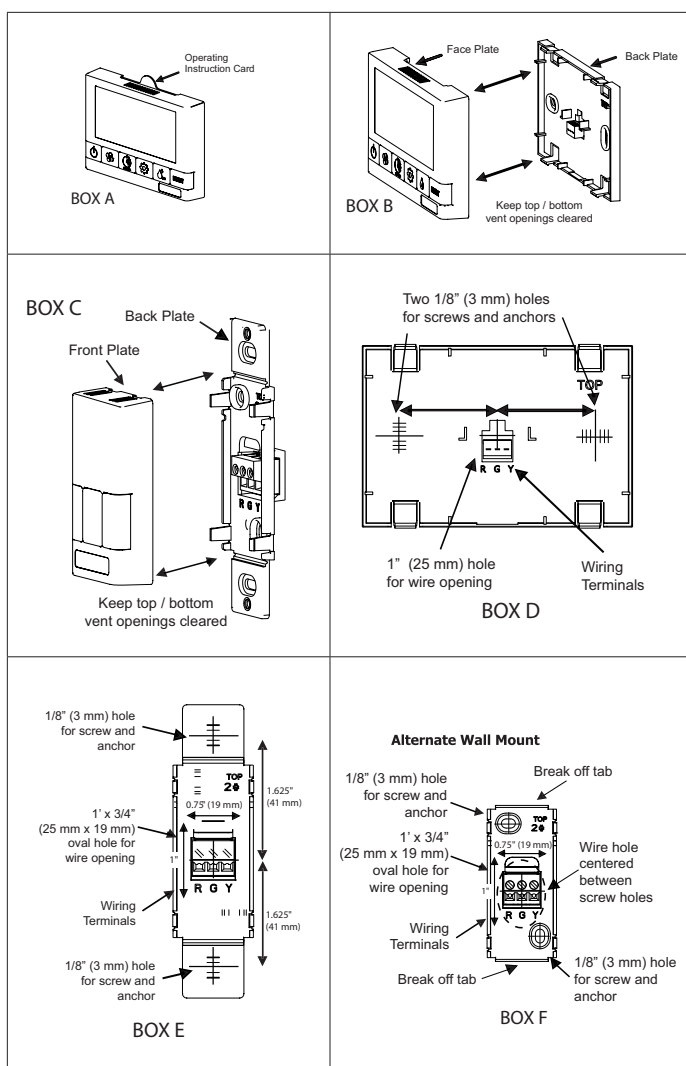

Figure 34. Digital Control Installation
1. For the Digital 5-Speed / 5-Mode Control, remove the operating instructions card from the top of the control (Figure 34, Box A).
2. Separate the face plate from the back plate by firmly pulling apart (Figure 34, Boxes B or C). Be careful not to damage face plate contact pins.
3. For the Digital 5-Speed / 5-Mode Control, place the back plate of the control in the desired location on the wall and pencil mark the wall with the right and left screw holes (Figure 34, Box D).
4. For the Wall Mount Dehumidistat/ Ventilation Control, place the back plate of the control in the desired location on the wall and pencil mark the top and bottom screw holes (Figure 34, Boxes E or F). For mounting the control without a decorative plate, break off top and bottom tabs and refer to Figure 34, Box F for mounting.
5. Remove the back plate from the wall and mark the center hole for the wires in the middle of the screw holes. Refer to Figure 34, Boxes D, E or F for dimensions.
6. Drill (two) 1/8" (3 mm) holes for the screws and wall anchors (Figure 34, Boxes D, E or F). For the Digital 5-Speed / 5-Mode Control, drill a one inch hole in the center (Figure 34, Box D). For the Wall Mount Dehumidistat/Ventilation Control, cut in a 3/4" (19 mm) by 1" (25 mm) oval hole in the wall (Figure 34, Boxes E or F).
8. Connect red, green, and yellow to the wiring terminals located on the back plate (Figure 34, Boxes D, E or F).
10. Attach the face plate to the back plate (Figure 34, Boxes B or C).
11. For the Digital 5-Speed / 5-Mode Control, insert the instructions card into the control (Figure 34, Box A).